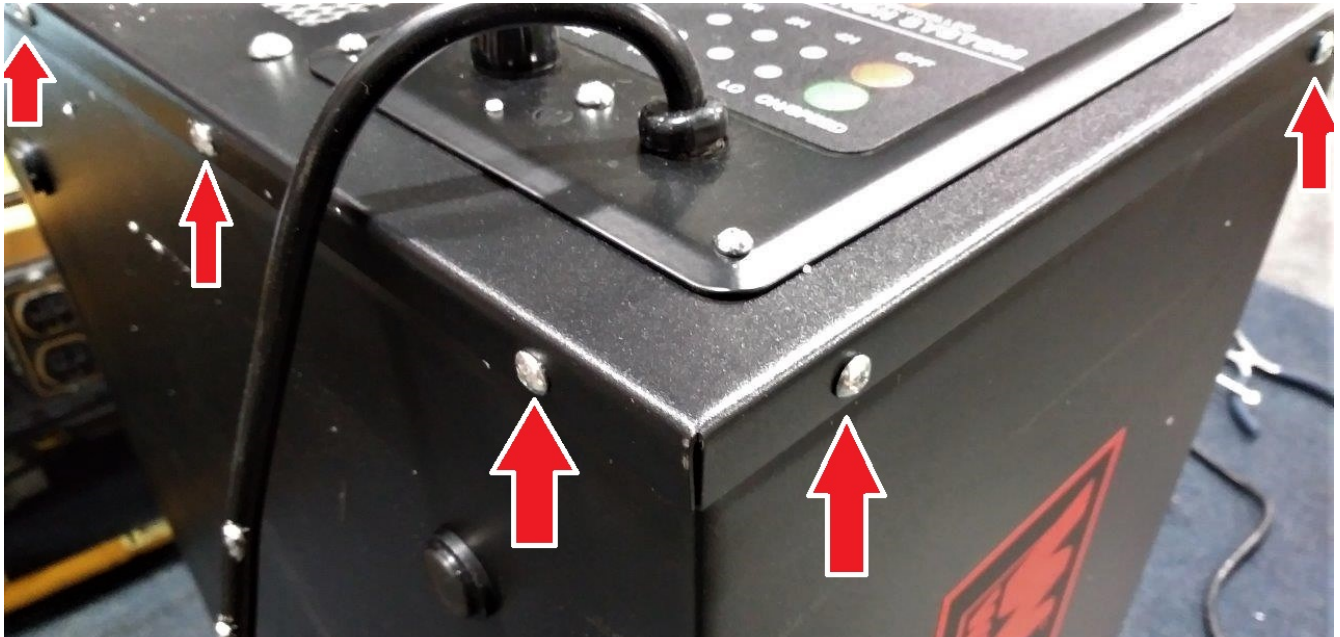

Figure 2: Remove these ten screws.
3. Using the Phillips head screwdriver, remove the ten screws found around the perimeter of the front panel, as indicated by the red arrows in Figure 2 below.